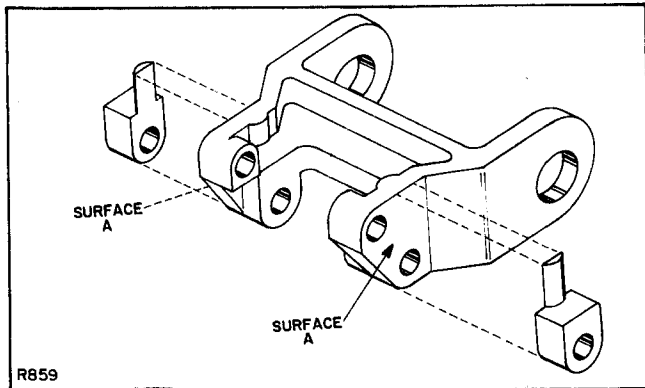

Figure 3-15. Modification of Wheel Housing Casting
2. Cut away the wheel housing casting as shown in figure 3-15, using a band saw and grinder. Grind surface "A" as smooth as possible. This surface will be in contact with the new exit rollers.